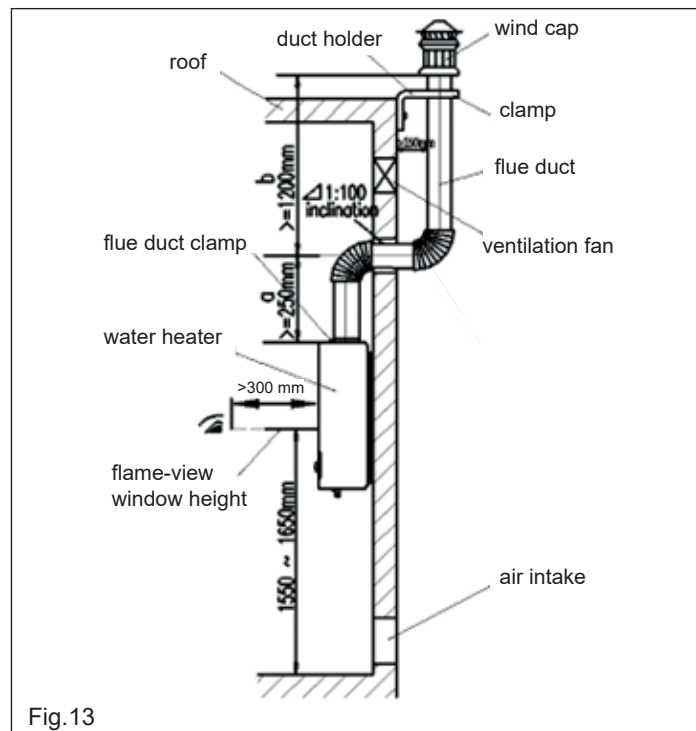

Fig.13
As this appliance is flue duct type, the flue duct must be installed (Fig.13). Detailed requirements are as follows:
- The flue outlet may include a windproof terminal (not supplied), which must not be obstructed. a windproof cap, which should not be clogged. For prevention of duct blockage, it is required strictly to install the exhaust duct according to Fig.13. It's very important to keep the dimension $1450\text{mm} \leq a + b \leq 1850\text{mm}$. The tightness for flue duct connection must be good. After installation of duct, check to ensure the appliance can operate normally. If the flue duct needs to get through the combustible materials or wall, it should use the heat shield material to pack the flue duct with the thickness over 20mm.
- Do not place any, especially inflammable materials under or near or over, or on top of the product (Fig. 16) and do not block the air inlet (Fig.13).
- A flue duct as shown in Fig.13 must be installed for combustion product discharge, keeping the air inside the room clean.